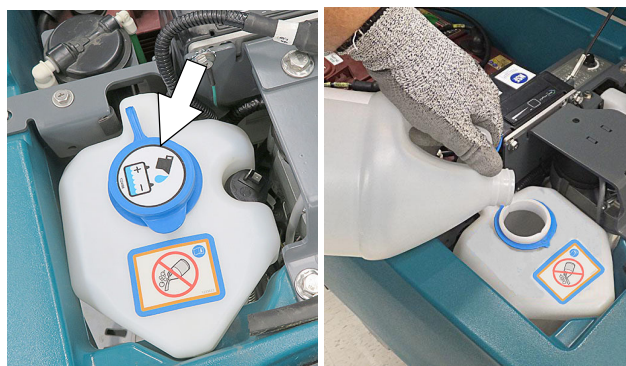

FIG. 23
2. Remove the blue cap from the automatic battery watering tank (Figure 23).
3. Pour distilled water into tank (Figure 23).